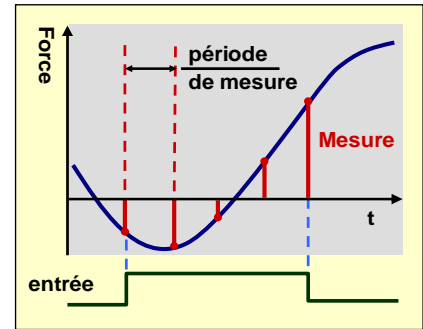

Fig. 5
7.2.5 Measurement window (Fig. 5) :